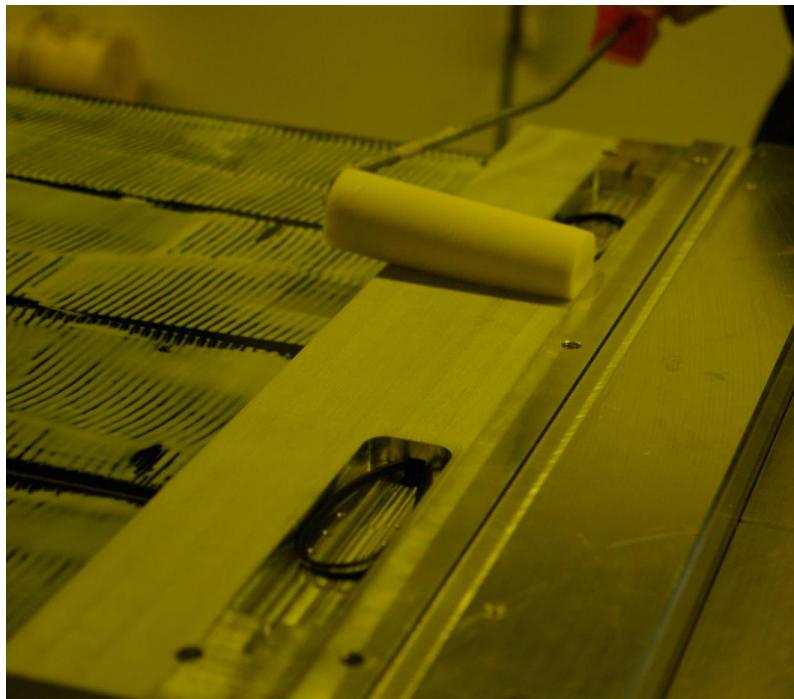

Figure 46 Glue on endplug "HE_LHCb_SCIFI_PAN_908200_A_0_EndPlugLI-LI-BAR"
5.1.4.10 With the roller apply glue to the gluing surface of the endplug "HE_LHCb_SCIFI_PAN_908200_A_0_EndPlugLI-LI-BAR" as shown in Figure 46